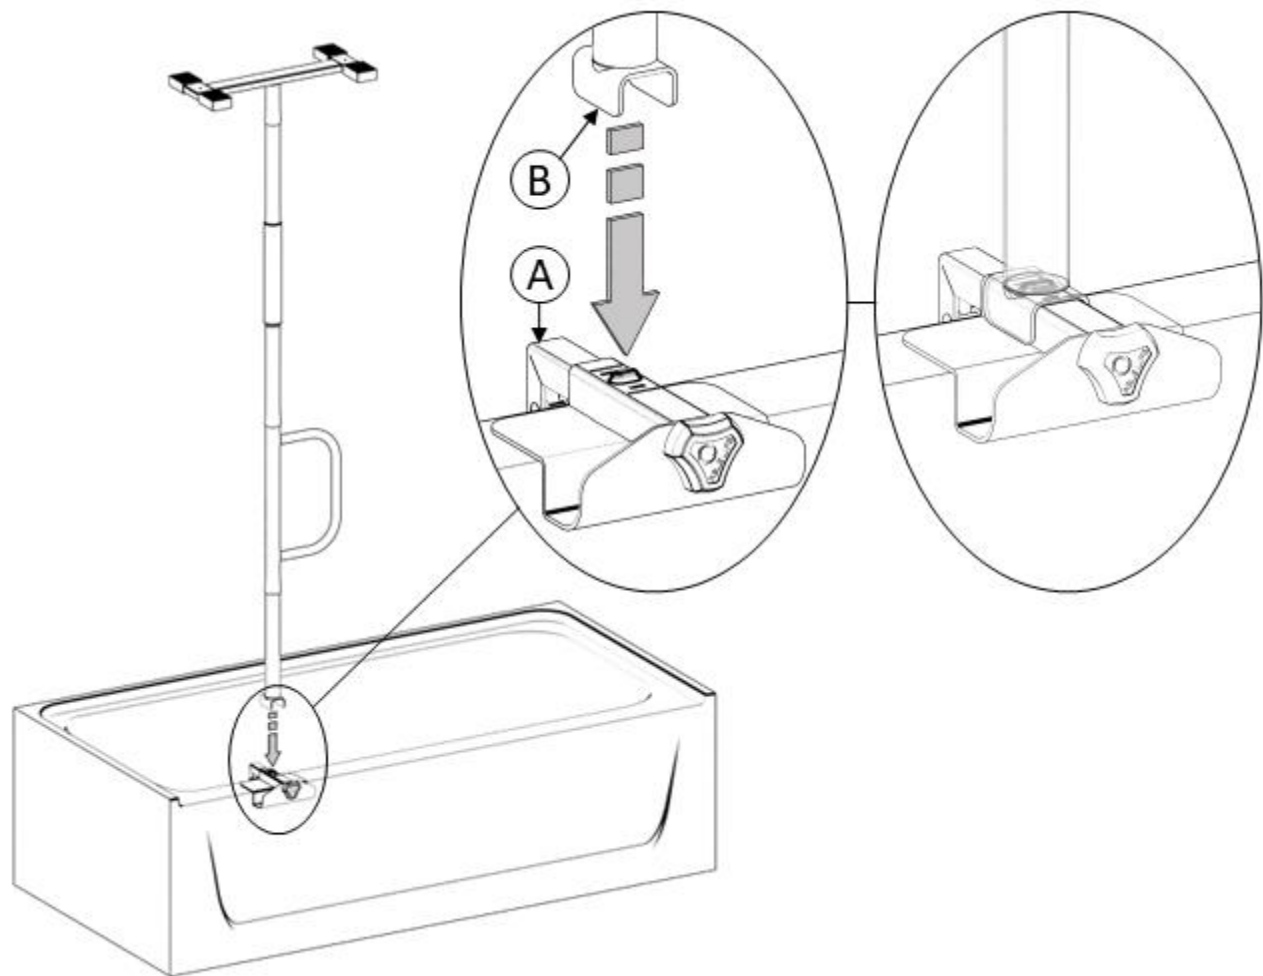

FIGURE 6
6. Insert **B** onto **A**. Ensure that the bump on **A**, aligns with the hole in **B** as shown in *FIGURE 6*. Cover red markings to ensure proper installation.